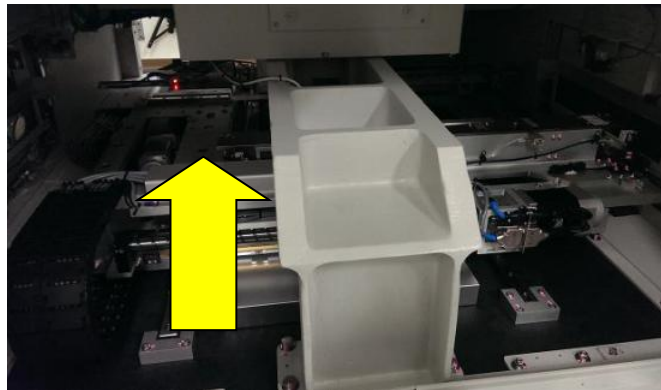

Figure 8 XY Stage movement
11. Push the XY stage Y axis toward to middle and ensure cylinder down position will not have any obstacle especially with the Clamper as Figure 8.